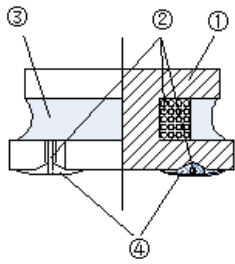

Fig.4-3
- 2) Structure: See **Fig. 4-3** and **Table 4-2**.